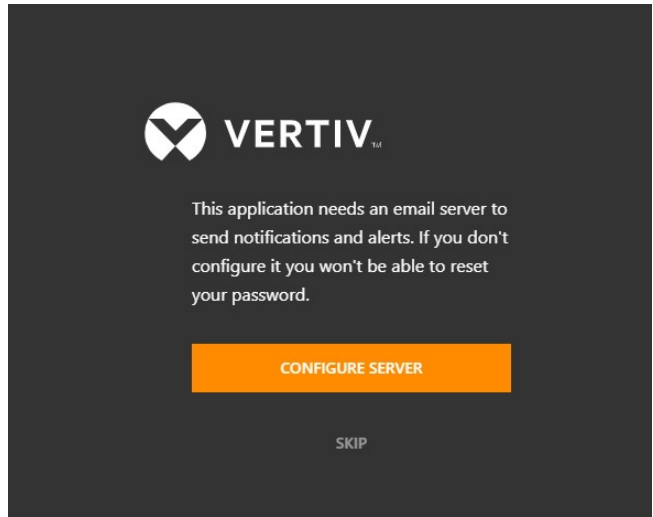

Figure 1-6 Selecting whether to skip mail server configuration
4. After you set the system administrator login password that meets the specified requirements, the system automatically redirects to the page for selecting the mail server configuration, as shown in Figure 1-6. You can immediately configure the mail server or click the **Skip** button to configure the mail server in **System Management > Notification Settings** later.